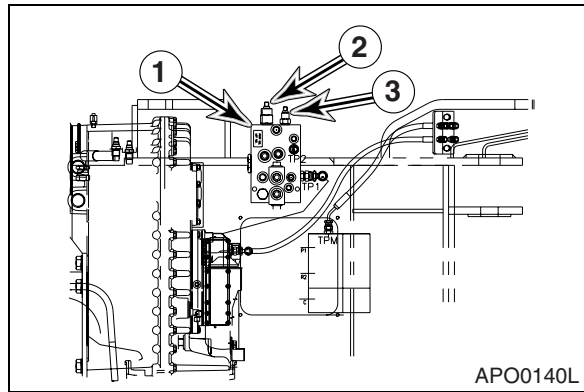

Figure 96
2. Adjust relief cartridge (3, Figure 96) on brake and pilot and fan motor supply valve (1, Figure 96). Relief pressure should be set at 28^{+3}_{-2} kg/cm² (398^{+43}_{-30} psi).